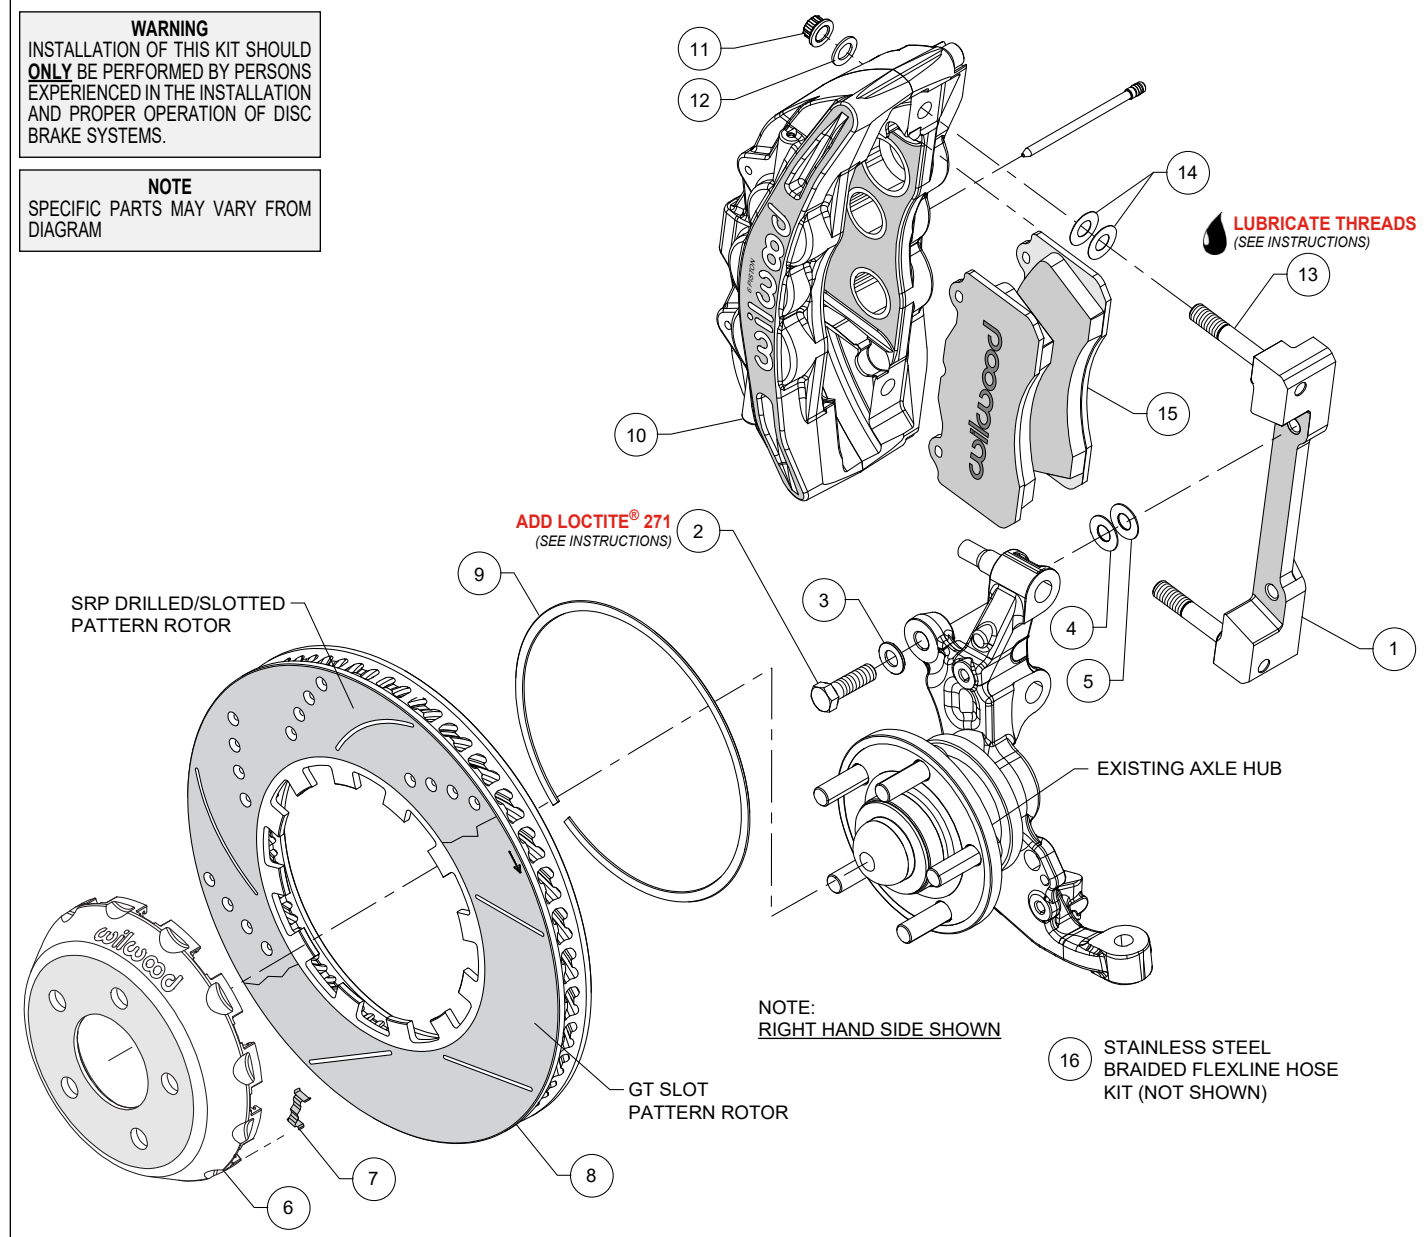

Figure 1. Typical Installation Configuration
NOTE: Numbers in parenthesis refer to the parts list and Figure 1 on the preceding pages.
- The caliper mount bracket (1) should initially be installed with clean, dry threads on the mounting bolts. Orient the bracket, as shown in Figure 1 and Photo 1, and install using bolts (2) and washers (3). Initially place one .033" thick shim (4) on each bolt between the bracket and upright, Figure 1. Temporarily tighten the mounting bolts. **NOTE:** The bracket must fit squarely against the mount bosses on the upright. Inspect for interference from casting irregularities, machining ridges, burrs, etc. Later, after the caliper alignment has been checked, the mount bolts will be secured using red Loctite® 271.
- Insert the dynamic mount wear clips (7) into the slots in the hat (6), Photos 2 and 3. Orient the rotor (8) as shown in Figure 1 and Photo 4, with the flush side of mount lugs facing the hat. Secure the rotor to the hat using the snap ring (9) by simultaneously pushing down on the rotor and installing the ring into the groove in the hat, as shown in Photo 5. Carefully inspect snap ring to ensure complete engagement in the groove.
- NOTE:** This kit contains distinct right and left hand calipers that must be mounted in a specific direction, as described below. Lubricate the caliper mounting studs (13) with lightweight oil. Initially place two .015" thick shims (14) on each stud between the caliper and the bracket, as shown in Figure 1 and Photo 7. Mount the caliper (10) onto the bracket (1) using lock nuts (11) and washers (12), Figure 1. Temporarily tighten the lock nuts. Ensure that the caliper is mounted so the largest pistons are at the rotor exit end of the caliper, in relation to the direction of the rotor. View the rotor through the top opening of the caliper. The rotor should be centered in the caliper, Photo 8. If not, adjust by adding or subtracting shims (4 and/or 5) between the bracket and the upright. Always use the same amount of shims on each of the two mounting bolts. Once the caliper alignment is correct, remove the bracket mounting bolts (2) one at a time, apply red Loctite® 271 to the threads, and torque to 60 ft-lbs.
- Remove the two pad retaining pins from the caliper (10) by pushing out the pins from the tapered end using a blunt instrument. Insert the brake pads (15) into the caliper from the bottom, Figure 1 and Photo 9. With the friction material facing the rotor, secure the brake